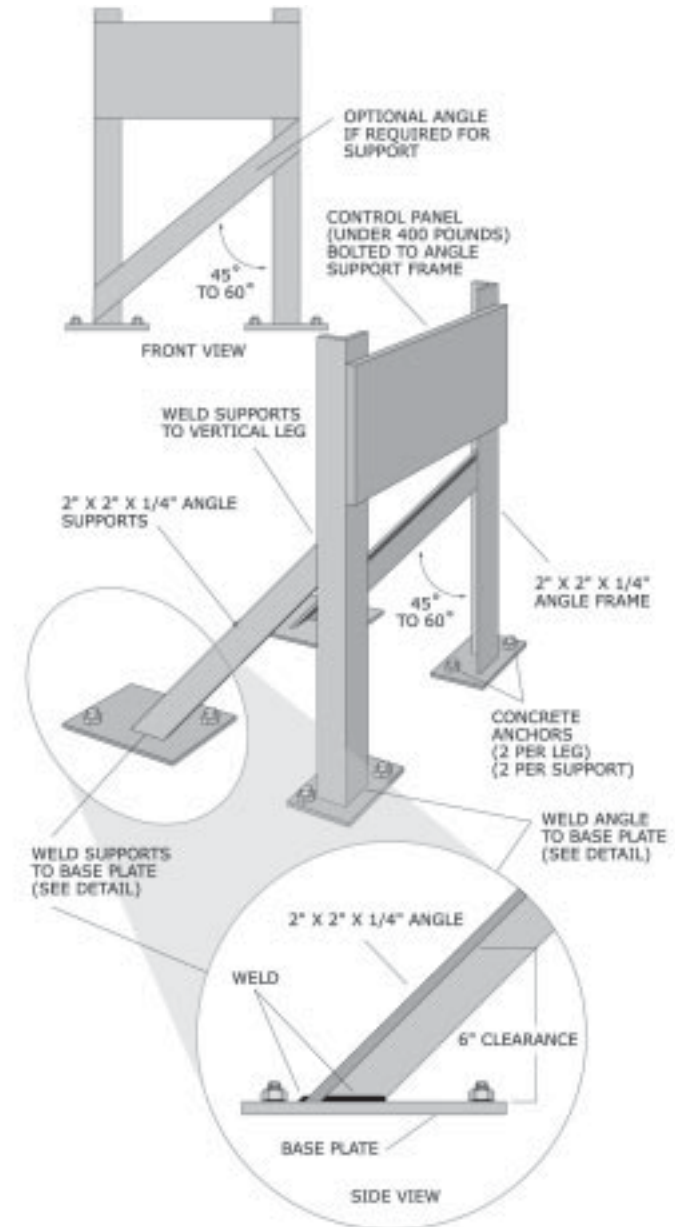

Figure 156: Angle assembly support from floor.
- Vertical angles or strut extending down to the floor with angles slanted back to the floor as shown in Figure 154 (page 140). This is the typical method. Details are shown in Figure 156 (page 141).
- To attach bases for angle floor-mounted supports, see Figure 156 (page 141).